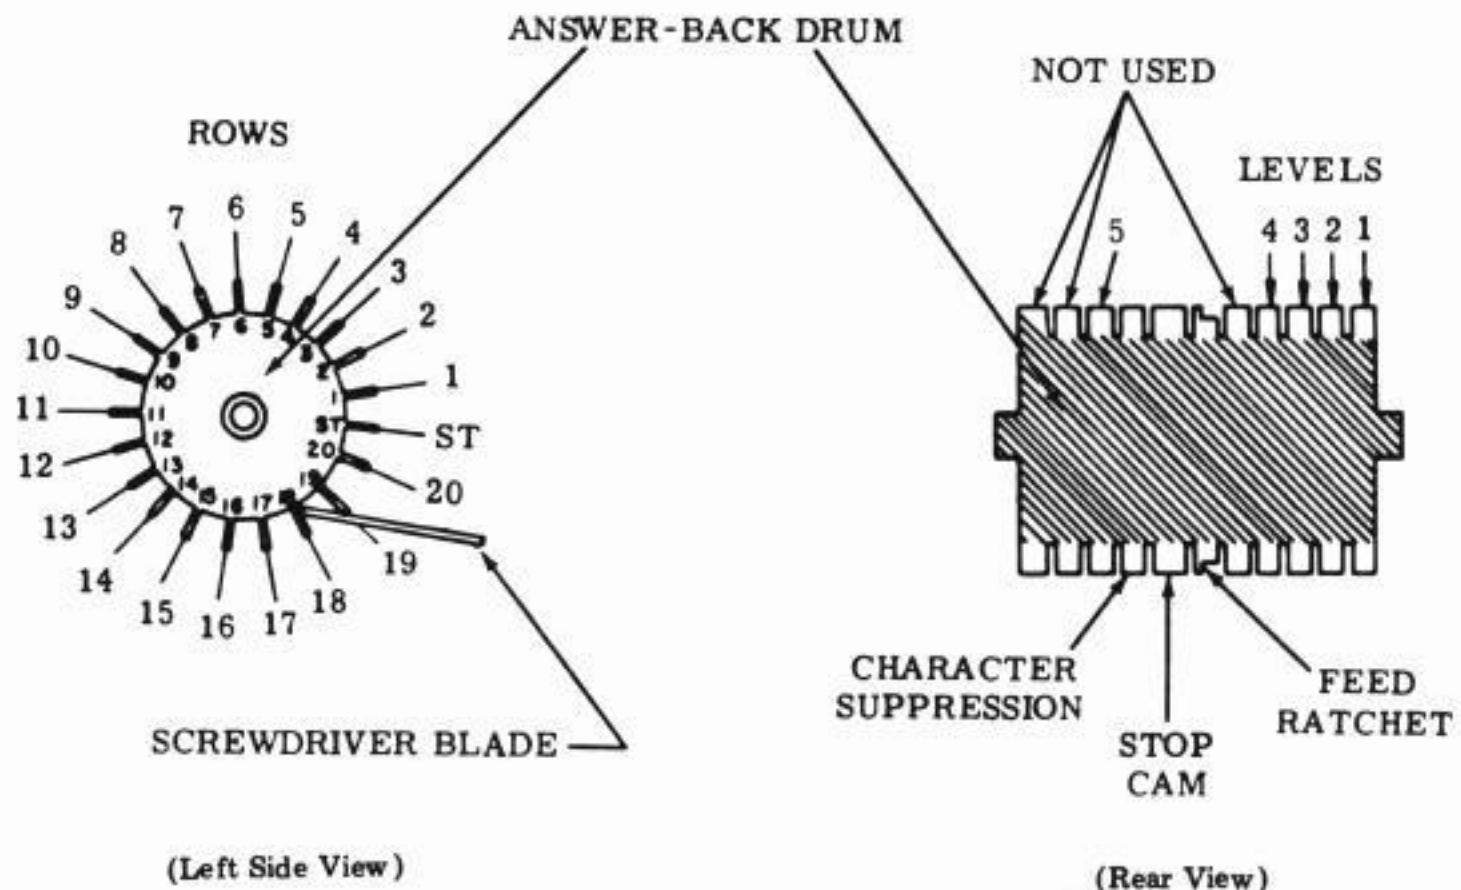

Figure 5 - Answer-Back Drum
2.05 Code the answer-back drum in a counterclockwise direction (Figures 5 and 6), starting with row no. 1.
2.06 A particular character is coded by either retaining or removing tines within a row, as illustrated in Figure 5. A tine may be removed by either of the two following methods.
(a) Method 1: Place the end of a screwdriver blade at the base of a tine in the row previously coded. Press the side of the blade against the top of the unwanted tine until the tine breaks off. Figure 5 illustrates this method — pressure applied to base of row no. 18 and against top of adjacent tine being removed from row no. 19.
(a) For short sequences, code the drum for either 2- or 3-cycle operation by removing the appropriate tine(s) as indicated in Figure 5.